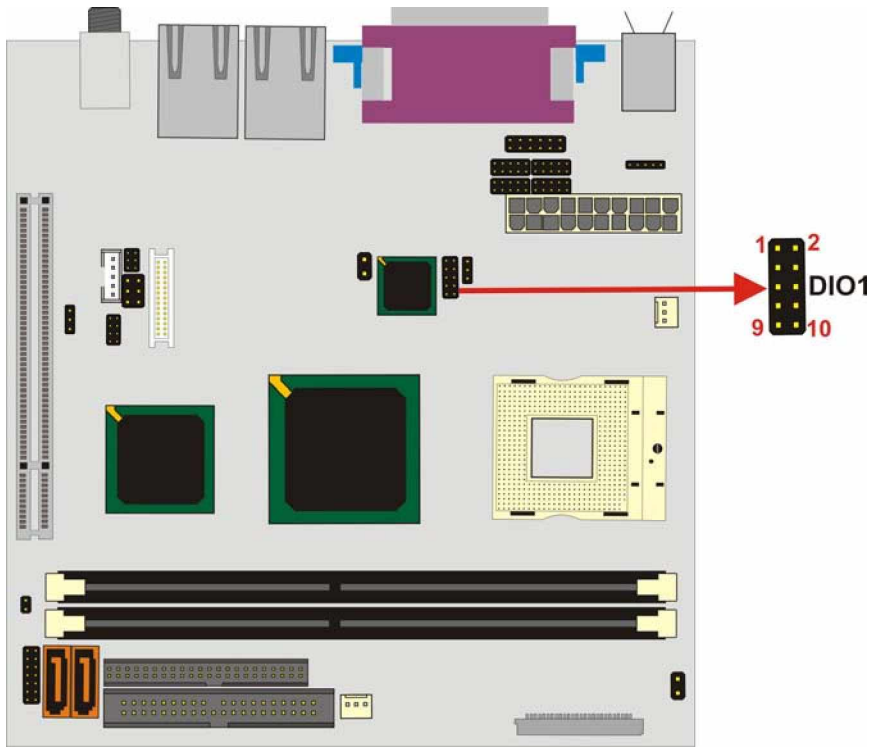

Figure 3-7: GPIO Connector Pinout Locations
- CN Location:** See Figure 3-7